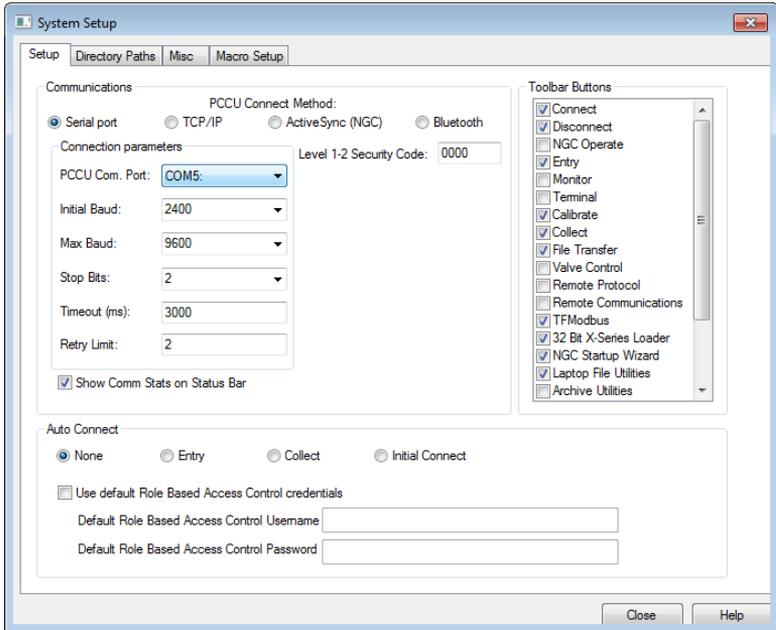

Figure 14: Local communication setup
- b. On the **PCCU Com. Port** menu under **Connection Parameters**, select the PC communication port containing the local cable connection (Figure 14).